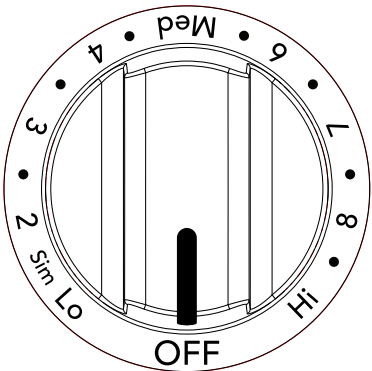

Figure 12: Single element knob
2. Push in and turn the surface control knob in either direction (Figure 12) to the desired setting (refer to the “Suggested radiant surface element settings” in Table 1).
Start most cooking operations on a higher setting and then turn to a lower setting to finish cooking. The surface control knobs do not have to be set exactly on a particular spot. Use the graphics provided as a guide and adjust the control knob as needed (see Figure 12).